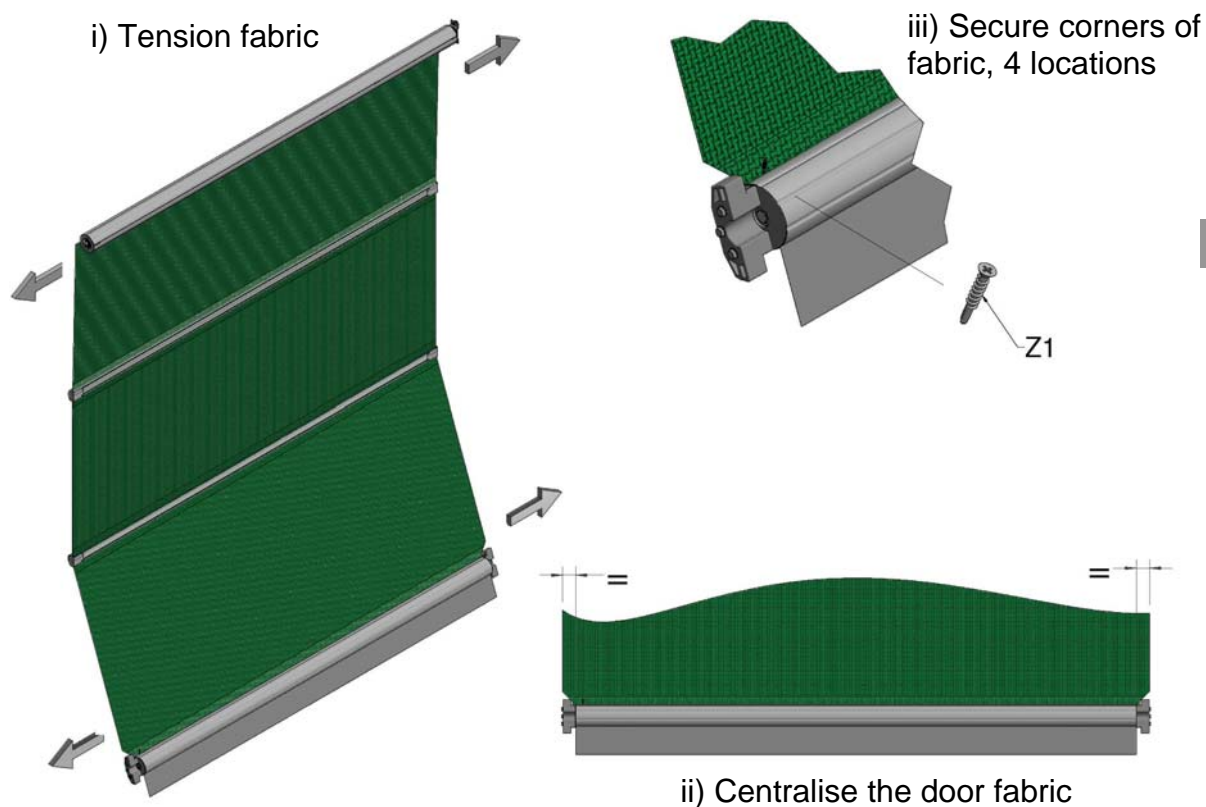

Figure 16, Centralising Screen
15. Lower your door fully and secure the fabric panel to the top and bottom tube with the self-drilling screws (Z1). It is important to tension sheet sideways before fixing to remove creases (Figure 16). Insert the screws into the top tube by a maximum of 35mm in from the edge to prevent damage to the spring and motor. Check the operation of the locking catches; it may be necessary to trim additional fabric above the tube to allow the swinging arm to fully close.